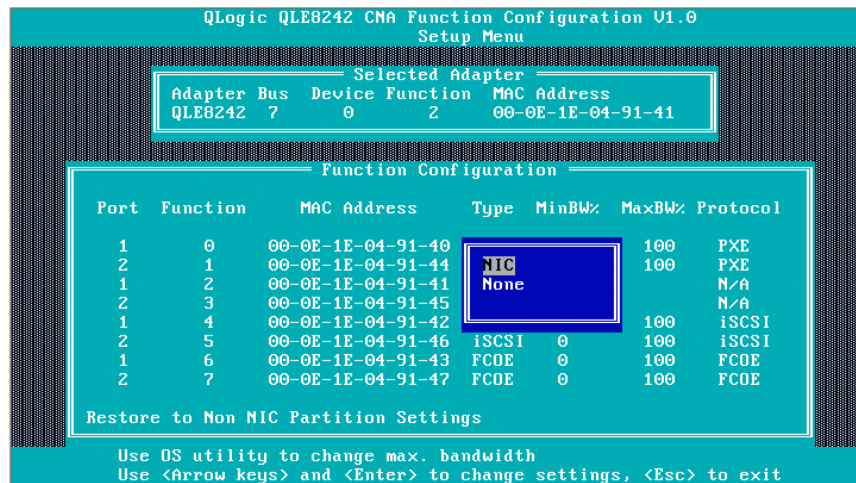

Figure 27: Selecting NIC Function Type to Change
3. Move your cursor to the **Type** column for any function type you want to change (Figures 27 through 29).